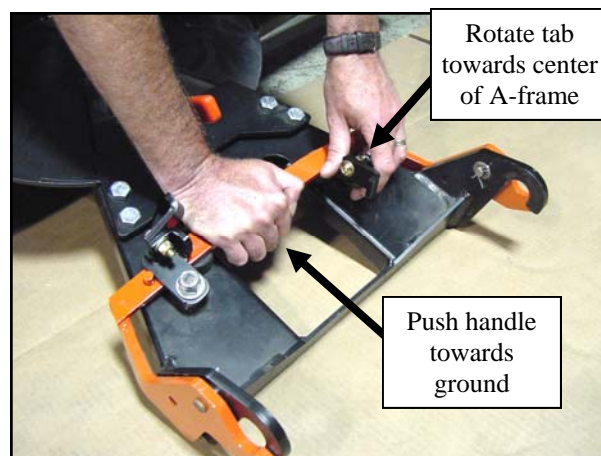

Fig. 9.2 — A-Frame Handle Operation
- 9.2 Per figure 9.2, place your hand on the A-frame handle as shown. Push the A-frame handle towards the ground, compressing the rubber spacers. This will remove pressure from the lock down tabs and allow them to rotate freely. Rotate the lockdown tabs toward the center of the A-frame.